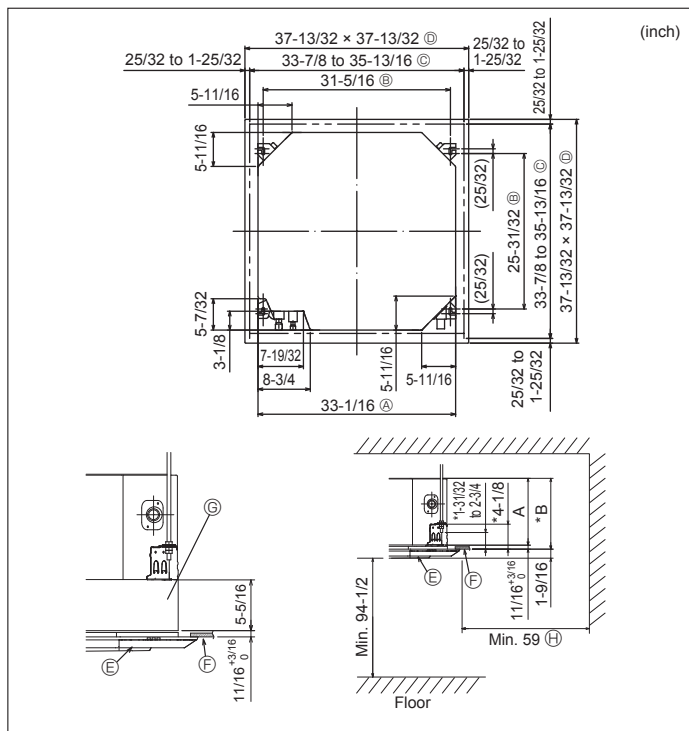

Fig. 2-2
## 2.2. Ceiling openings and suspension bolt installation locations (Fig. 2-2)
- \* The dimensions of ceiling opening can be regulated within the range shown in Fig. 2-2; so center the main unit against the opening of ceiling, ensuring that the respective opposite sides on all sides of the clearance between them becomes identical.